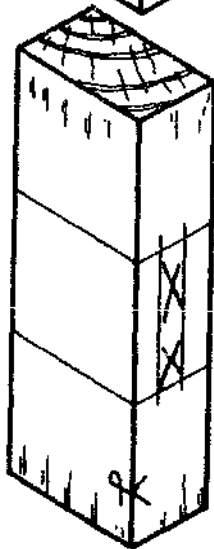

Fig. 4
- Use the same setting to mark both edges of the mortice and mark the waste (Fig. 4).